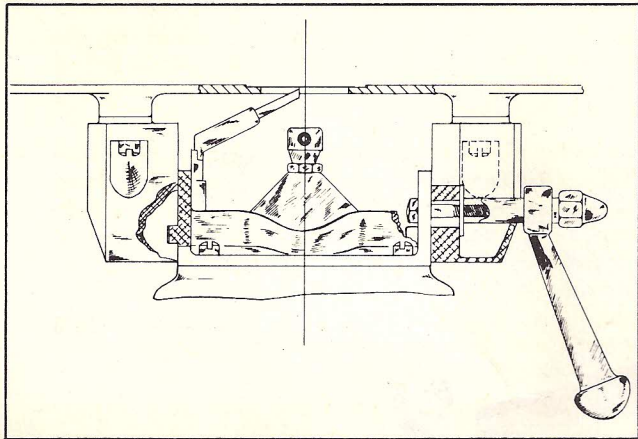

FIGURE 2
1. Place the front trunnion 23426 against the front of the trunnion support 23412 so that the groove in the trunnion fits over the ridge on the support as shown in figure 2.
5. Place the table in position so that the rear trunnion and the support fit as shown in figure 2. Line the holes up in the table and front trun-